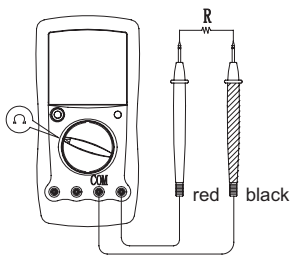

Figure 5
E. Measuring Resistance (See Figure 5)